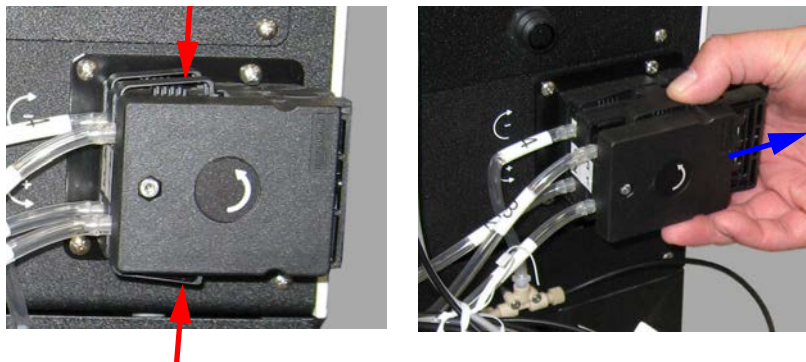

Figure 5-21 Removing a retaining clip
1. At the pump: push the levers at the top and bottom of each tube retaining clip, then pull the clips out (Figure 5-21).